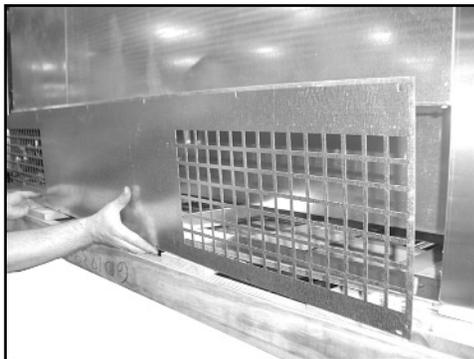
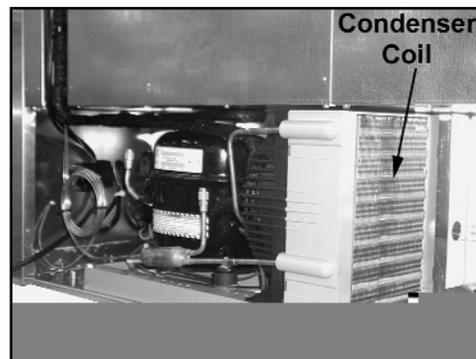

Figure 1
Figure 2
4. For condensing unit access, remove all 1/4" hex head screws off rear grill and pull grill straight out. (See **Fig. 1 & Fig. 2**)